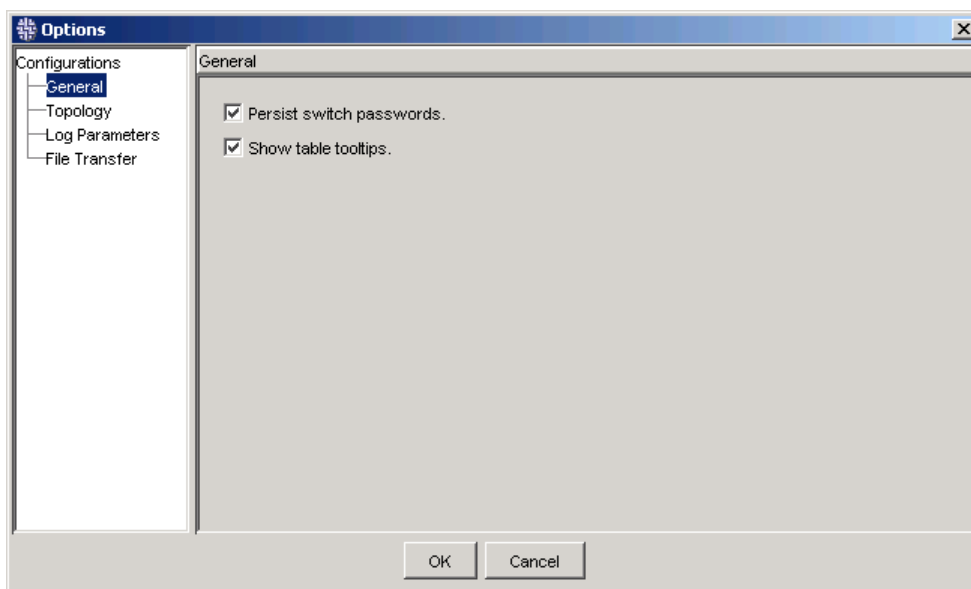

Figure 9: Options Dialog Box
1. Select **File > Options**. The Options dialog box opens (see Figure 9).
1. Select **File > Options**. The Options window is displayed (see Figure 9 on page 49).